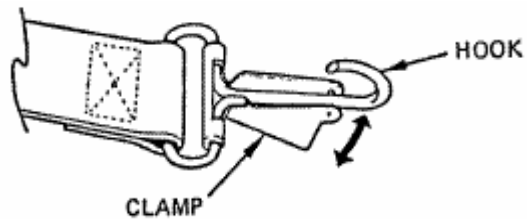

FIGURE 3-5. Securing Clamp
2. Locate the securing clamp around each of the two hooks. On each of the hooks, push the pointed end of the clamp back with your thumb to reveal the exposed hook (refer to Figure 3-5). Connect the two hooks to the web belt. Secure the Torso Harness to the belt by pushing the securing clamp back over the hook.